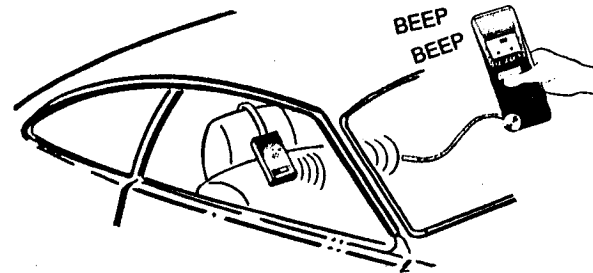

Fig. 3
2. Place the 6501 transmitter inside the compartment to be checked (e.g. passenger compartment or trunk), facing toward the area to be tested (figure 3).